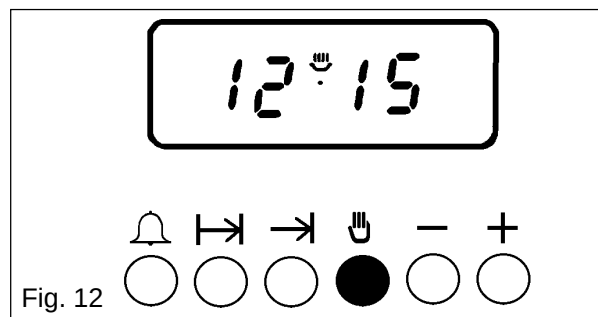

Fig. 12
- To cancel an automatic programme, press ( ) button. The AUTO display will go out and the cookpot symbol will light, as Fig.12.